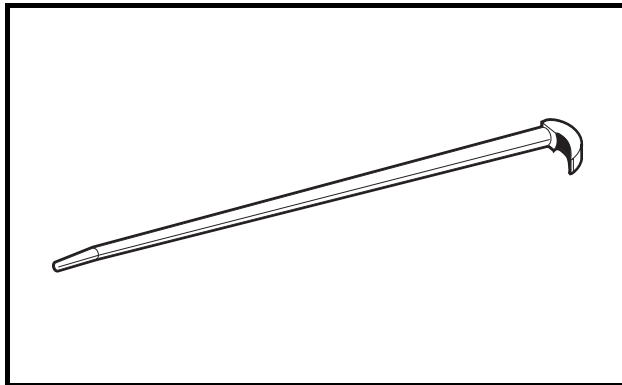
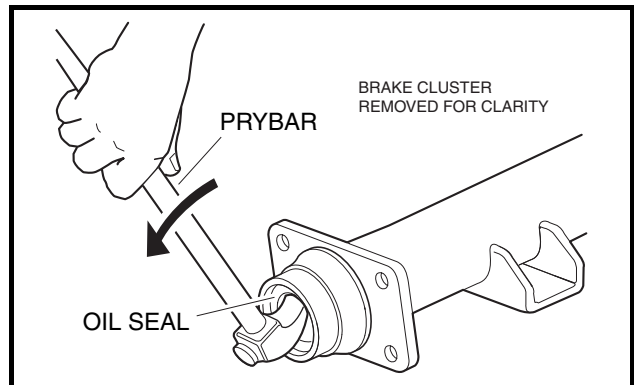

Figure 16-4 Rolling Head Prybar
Figure 16-5 Seal Lip
8. Position a 16-inch (40 cm) rolling head prybar (Figure 16-4, Page 16-3) under the inside lip of the seal and pull the oil seal out (Figure 16-5, Page 16-3). See following CAUTION.